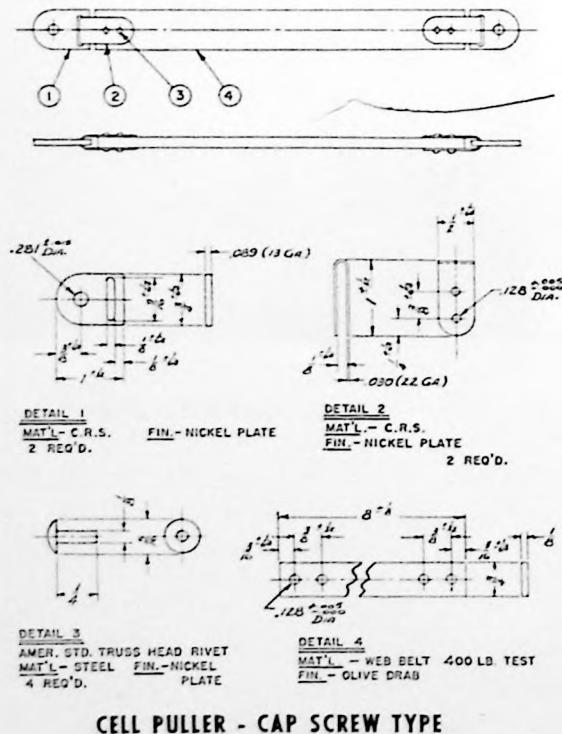

FIGURE 8
- Remove all vent plugs, using vent wrench shown in Figure 8.